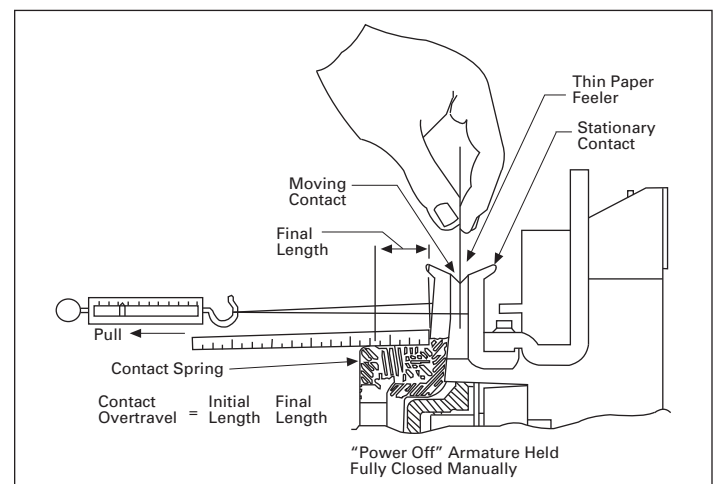

Figure 6. Final contact force and spring length measurement
- Final force 9 to 10 pounds (**Figure 6**)